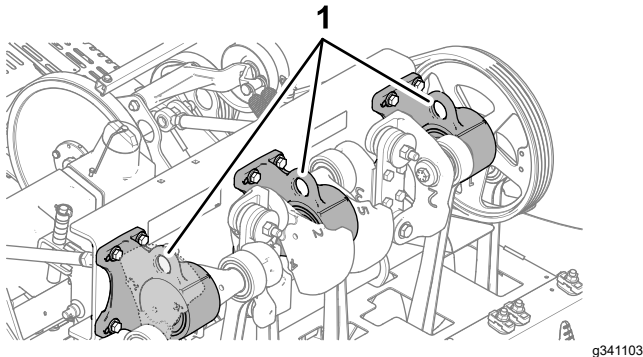

Figure 3
**Note:** If available, use a hoist to lift the rear of the machine. Use the eyelets in the coring-head bearing housings as hoist attachment points (Figure 3).